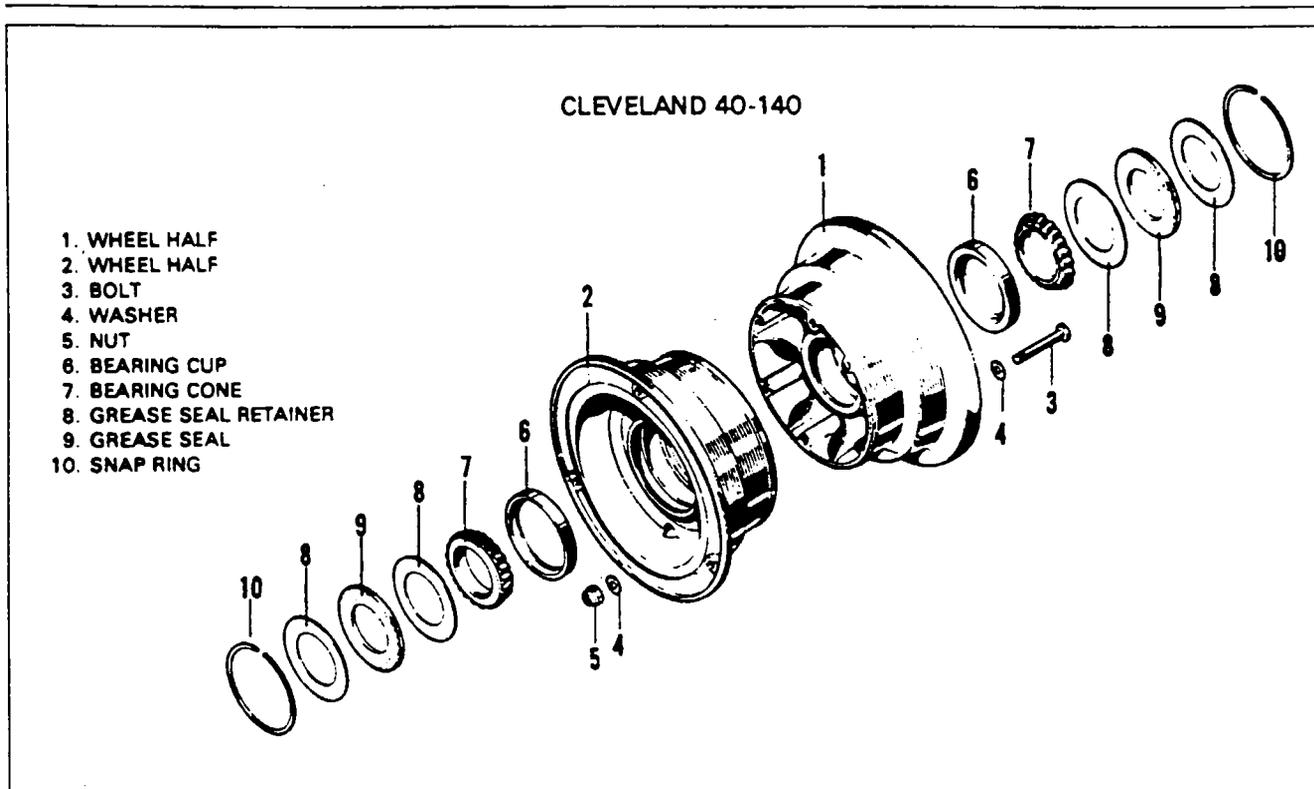

Figure 32-18. Nose Wheel Assembly (Cleveland)
**REMOVAL AND DISASSEMBLY OF NOSE WHEEL (CLEVELAND).** (Refer to Figure 32-18.)
**ASSEMBLY AND INSTALLATION OF NOSE WHEEL (CLEVELAND).** (Refer to Figure 32-18)